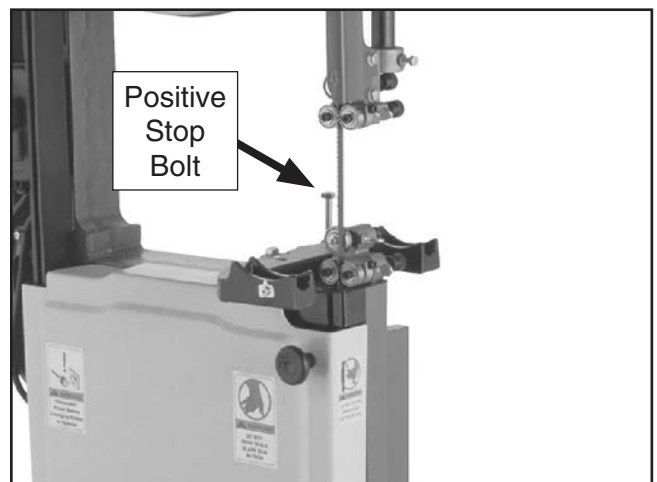

Figure 9. Shows positive stop bolt installed.
7. Thread (1) M8-1.25 hex nut halfway up M8-1.25 x 80 hex bolt.
8. Thread the M8-1.25 x 80 hex bolt (a.k.a. positive stop bolt) into trunnion base so it is installed similar to **Figure 9**.